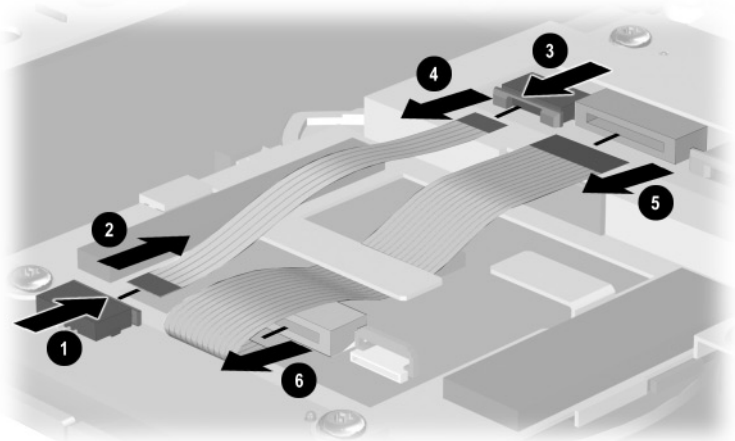

Figure 5-34. Disconnecting the TouchPad-to-TouchButton Board and TouchButton Board-to-Pointing Stick Board Cables
9. Release the ZIF connector ❶ on the pointing stick board to which the TouchButton board-to-pointing stick board cable is attached and disconnect the cable ❷ (Figure 5-34).
10. Release the ZIF connector ❸ on the TouchButton board to which the TouchButton board-to-pointing stick board cable is attached and disconnect the cable ❹.
11. Disconnect both ends of the TouchPad-to-TouchButton board cable from the LIF connectors on the TouchButton board ❺ and TouchPad ❻.